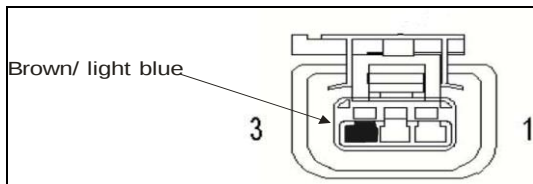

Figure 5.2 - Crank Position Sensor, looking into front of connector
- ☐ Solder and seal the white wire from the throttle control to the brown wire with a light blue stripe that is connected to the crank position sensor (Figure 5.2).